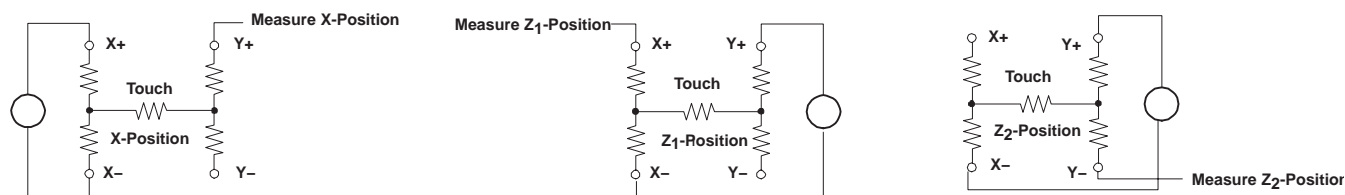

Figure 26. Pressure Measurement
Measuring touch pressure (Z) can also be done with the TSC2101. To determine pen or finger touch, the pressure of the *touch* needs to be determined. Generally, it is not necessary to have very high performance for this test; therefore, the 8-bit resolution mode is recommended (however, calculations are shown with the 12-bit resolution mode). There are several different ways of performing this measurement. The TSC2101 supports two methods. The first method requires knowing the X-plate resistance, measurement of the X-Position, and two additional cross panel measurements (Z_2 and Z_1) of the touch screen (see Figure 26). Using Equation (1) calculates the touch resistance: